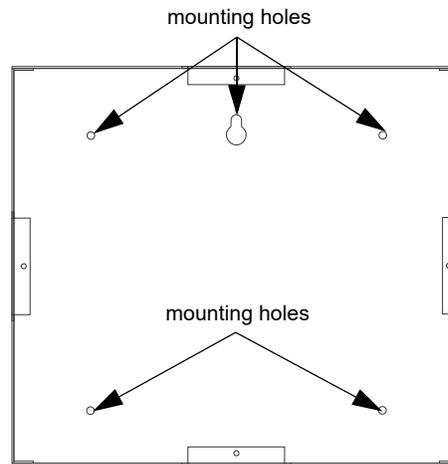

Figure 4.12 6855 Backbox Mounting
2. Mark and pre-drill hole in the wall for the center top keyhole mounting bolt. Refer to Figure 4.12 for mounting hole locations.